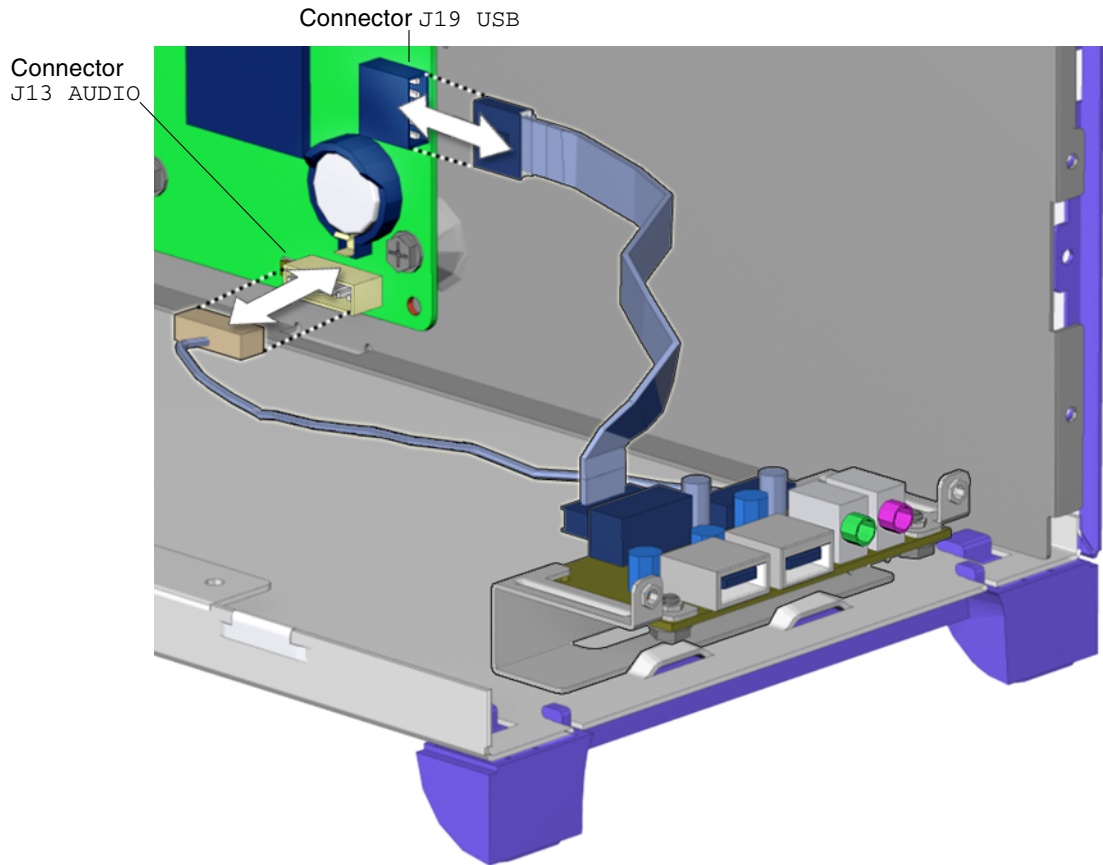

FIGURE 14-22 Removing Audio and USB Cables From the Motherboard
4. See FIGURE 14-22.
See FIGURE 14-22.